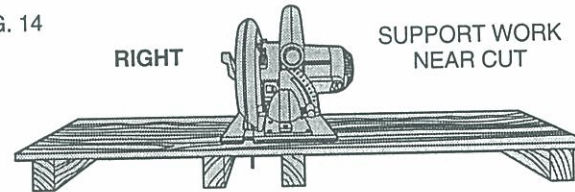

FIG. 15
To avoid kickback, DO support board or panel NEAR the cut and on both sides of the cut, (Figure 14). DON'T support board or panel away from the cut, (Figure 15). When ripping long narrow strips, support cut-off waste material.
- B. Cutting through material supported at the outer ends only (see Figure 15). As the material weakens it sags, closing down the kerf and pinching the blade.